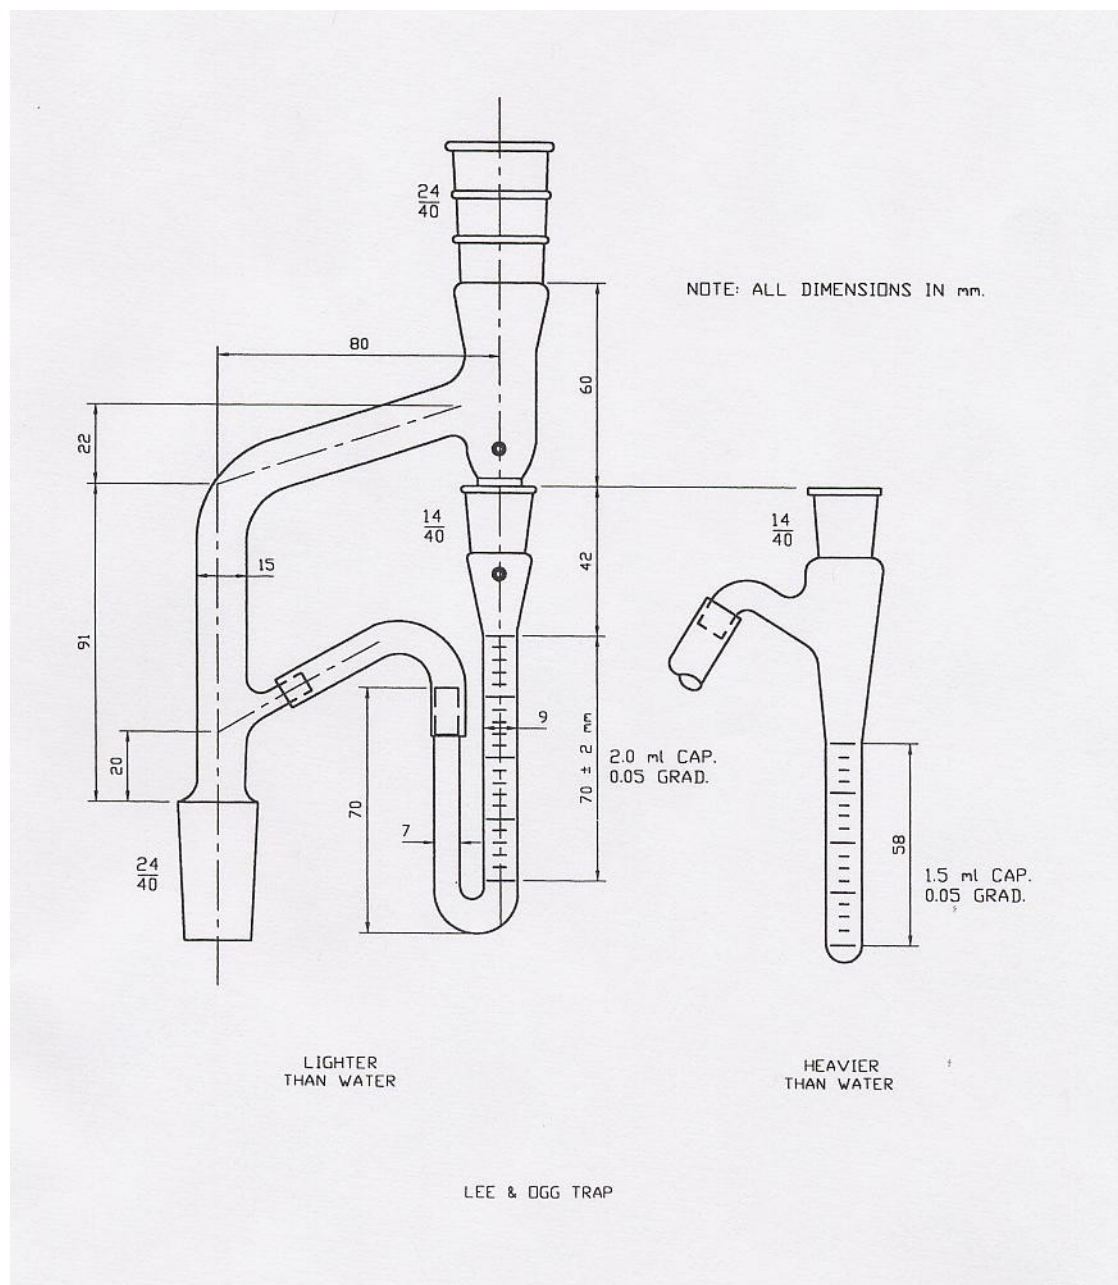

Figure 1. Volatile oil traps for ASTA method 5.1.
4. Volatile oil traps as shown in Fig. 1.